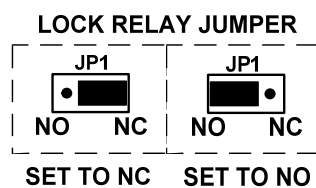

Figure 3
The CCM-1N-S lock relay output function can be set to operate either normally open (NO) or normally closed (NC) depending on the position of jumper “JP1” (see Figure 3). For fail secure lock operations the jumper must be in the “NO” position, for fail safe operation it must be set in the “NC” position.